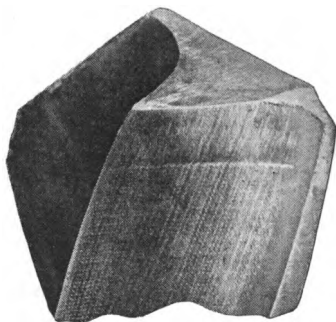

Fig. 20
- 62 When the extreme outer corners of the cutting edges wear away too rapidly (Fig. 20), it is evidence of too much speed. (See Par. 52.)